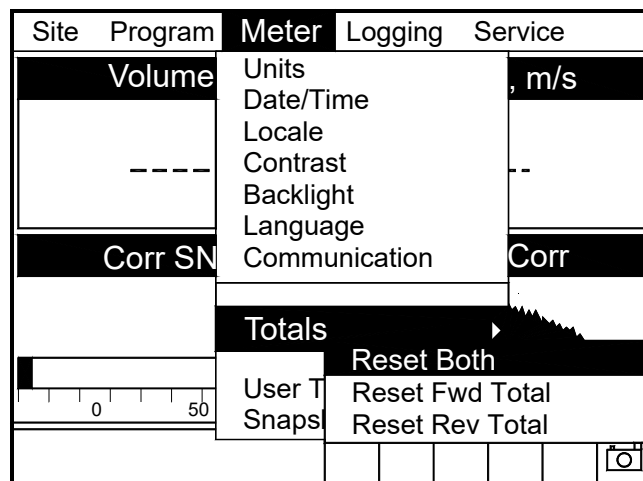

Figure 66: Resetting Totals Menu
1. From the Meter menu, scroll to the Totals entry and press [ENTER]. The window now appears similar to Figure 66 below.